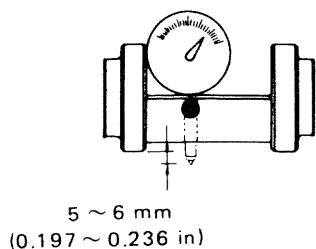

Fig. 16-21-1
- Set dial indicator on dummy, letting the indicator spindle protrude 5 to 6 mm from the bottom of dummy as shown in Fig. 16-21-1.